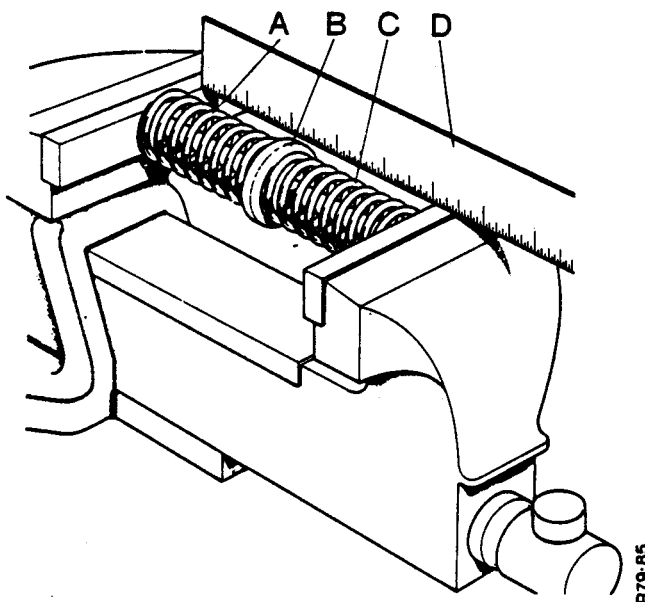

FIGURE 35 CHECKING VALVE SPRINGS
3. Make a comparison of the length of each spring under load as shown in Figure 35.